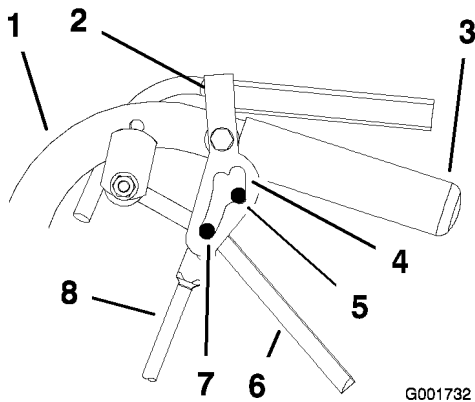

Figure 41
- Release and engage neutral lock checking that the tire does not rotate (Figure 41). Continue this process until the tire does not rotate.